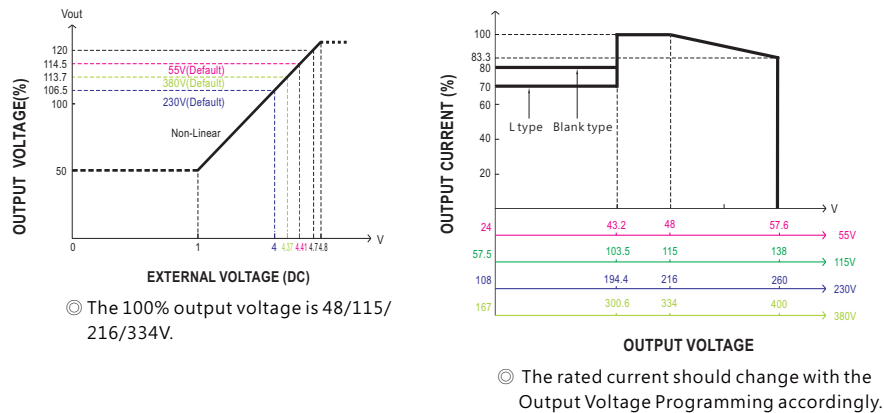

Figure 5-3
C. Relationship between output voltage and external DC source is shown in Figure 5-3.